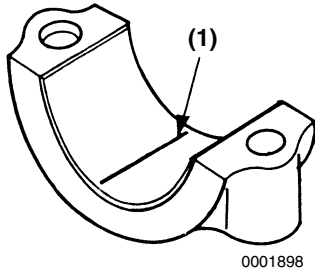

Figure 6-98
- Place a piece of PLASTIGAGE® **(Figure 6-98, (1))** along the full width of the bearing insert.